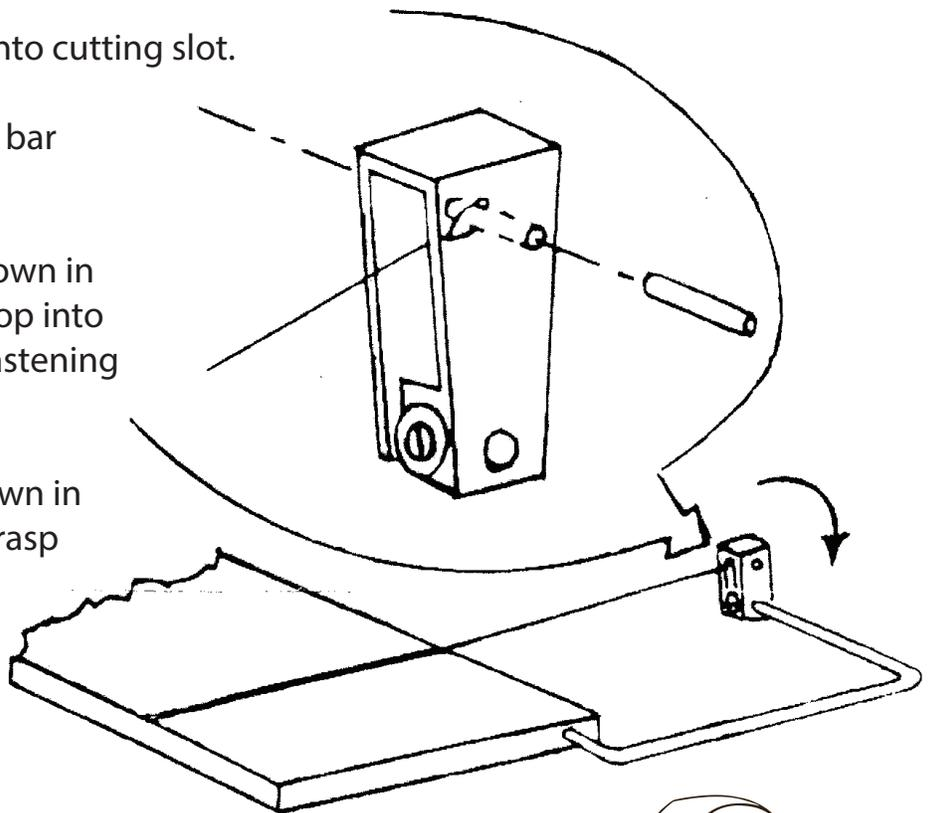

Figure 2
8. With handle in raised position as shown in Figure 2, place the other wire loop into the handle cavity and reinsert fastening pin, passing it through loop.
9. Turn the handle in the direction shown in Figure 2 until it comes to rest. Grasp handle and tighten set screw into metal bar.